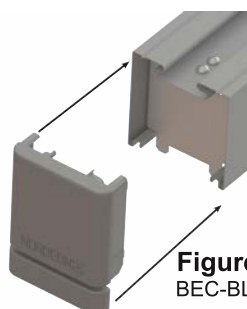

Figure 13
- BEC-BL Plastic End Caps may be installed on the Trunk ends before the Gear Trays/Light Fixtures are installed. ODI-BL Plastic End Caps must be installed after the Gear Trays/Light Fixtures are installed. (Refer to the Row by Row Analysis to find which End Caps are used on each Row.) Trunks that are inside of and connect to perpendicular Trunks do not need plastic end-caps. See Figures 13 and 14.